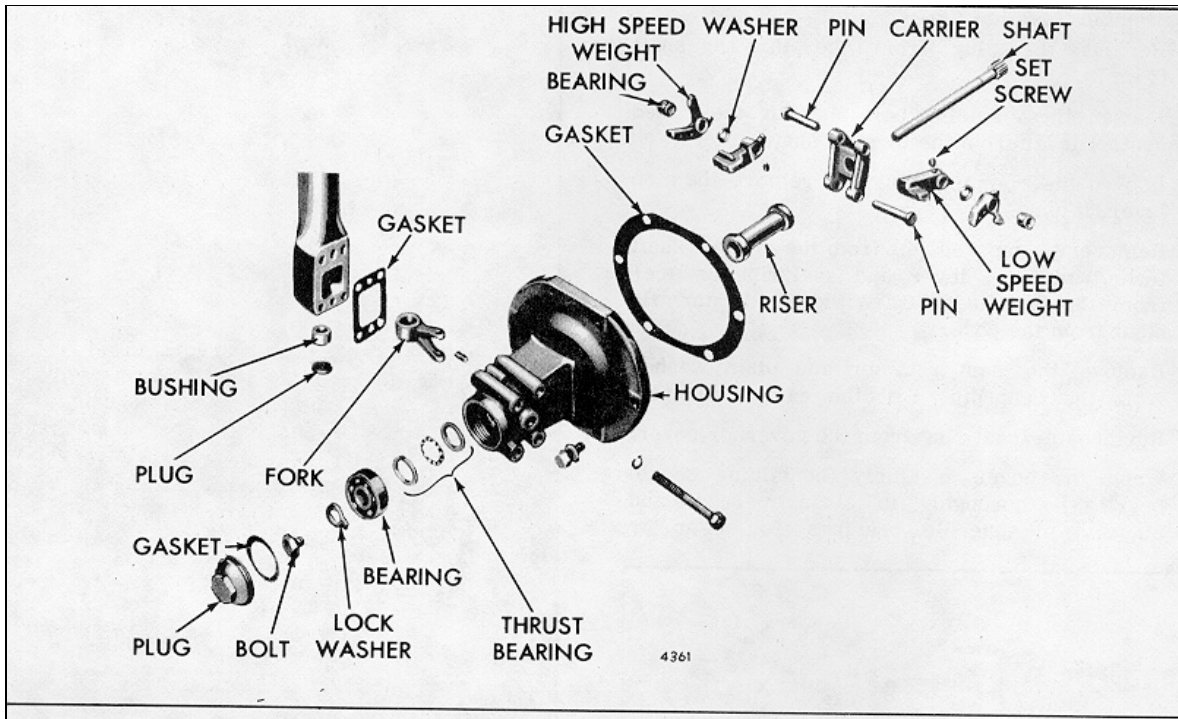

Fig. 4 - Fuel Modulating Governor Weight Housing Details and Relative Location of Parts
1. Place weight housing (Fig. 4) in a soft jawed vise. Remove the plug and gasket.
8. If required, the weight carrier (Fig. 4) may be pressed from governor weight shaft and a new carrier installed.